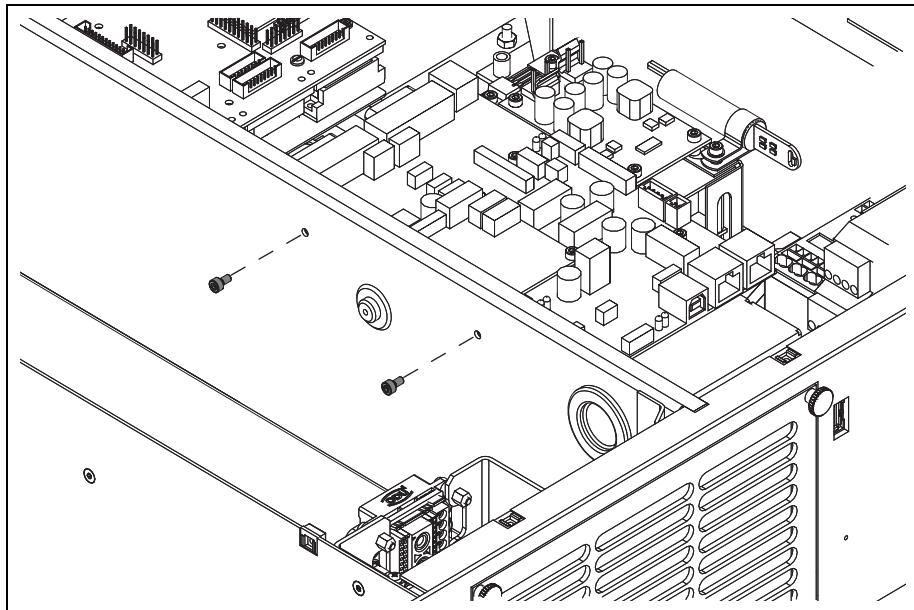

Figure 3.72 Power supplies -G3 and -G4 – 1
4. Unscrew the fastening screws from the LSC (see figure 3.72).